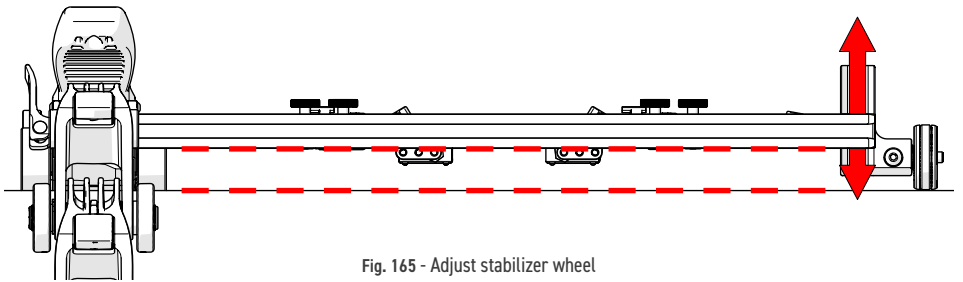

Fig. 165 - Adjust stabilizer wheel
11. Adjust the stabilizer wheel (Fig. 165) to align the frame bar parallel with the scan surface. (see Stabilizer Wheel on page 24).